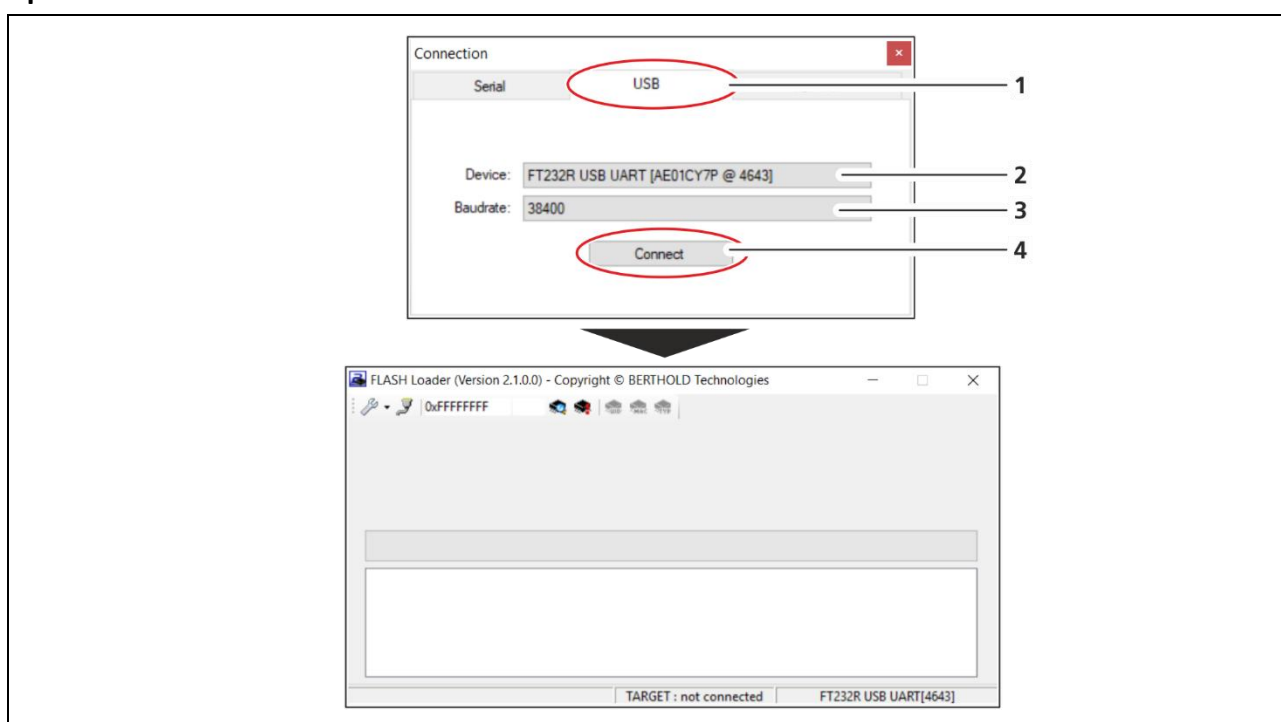

Fig. 3 Set up the connection PC – Service modem
19. Start the “FLASH Loader” software and click on the tab “USB” (Fig. 3, Pos.1).
20. Select the service modem under “Device” (Fig. 3, Pos.2).
21. Select 38400 Baud under “Baudrate” (Fig. 3, Pos.3).
22. Click on <Connect> (Fig. 3, Pos.4).